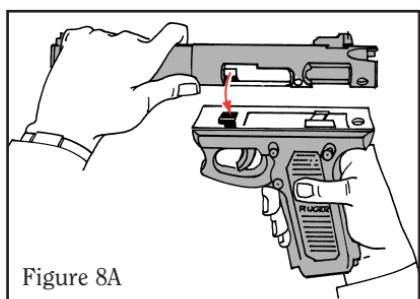

Figure 8A
3. Place the barrel receiver on top of the frame so that the square lug engages the square front recess on the underside of the receiver (see Figure 8A). Push the barrel rearward until it stops, with the rear end of the receiver slightly overhanging the rear end of the grip frame (see Figure 8B). If alignment cannot be achieved by hand pressure, place the pistol (muzzle down) on a padded bench and strike the rear of the grip frame immediately below the receiver with a plastic or wooden mallet. Be careful not to damage the grip frame.